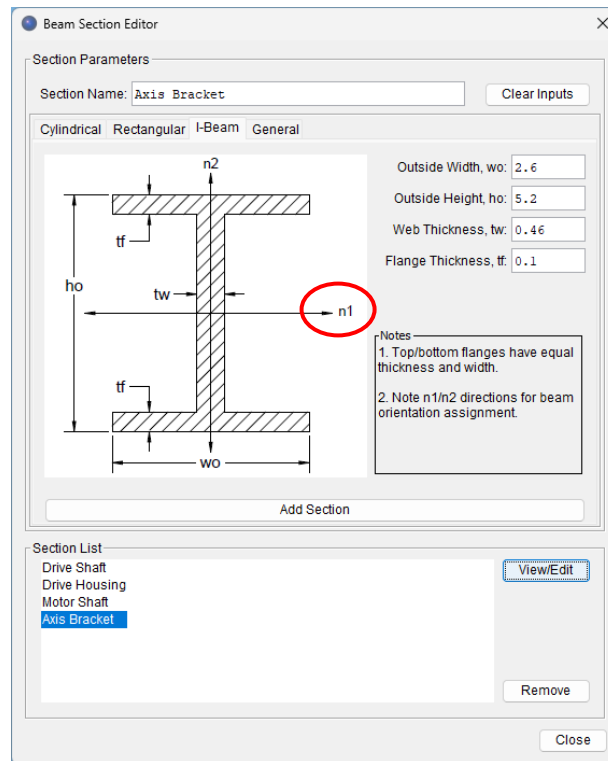

Figure 3-10. Beam Sections
3. Create the 4 sections from the properties in Table 3-2. Use the tabs in the Section Editor to select the section type and complete the required parameters for the section. When defining the Axis Bracket as an I-beam section, take note of the n1 vector (see Figure 3-10 below). This section is non-axisymmetric and its clocking orientation must be correctly defined in the beam element editor later.